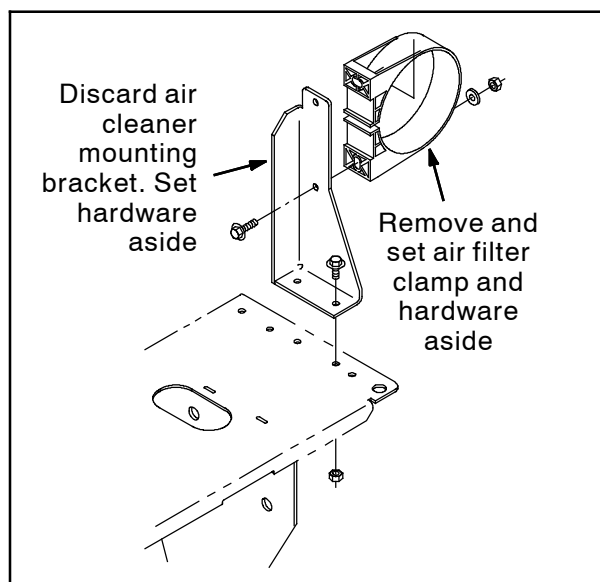

FIG. 35
48. Remove the air filter clamp from the air cleaner mounting bracket. Set the air filter mounting clamp and all hardware aside. Discard the air cleaner mounting bracket. (Fig. 35)